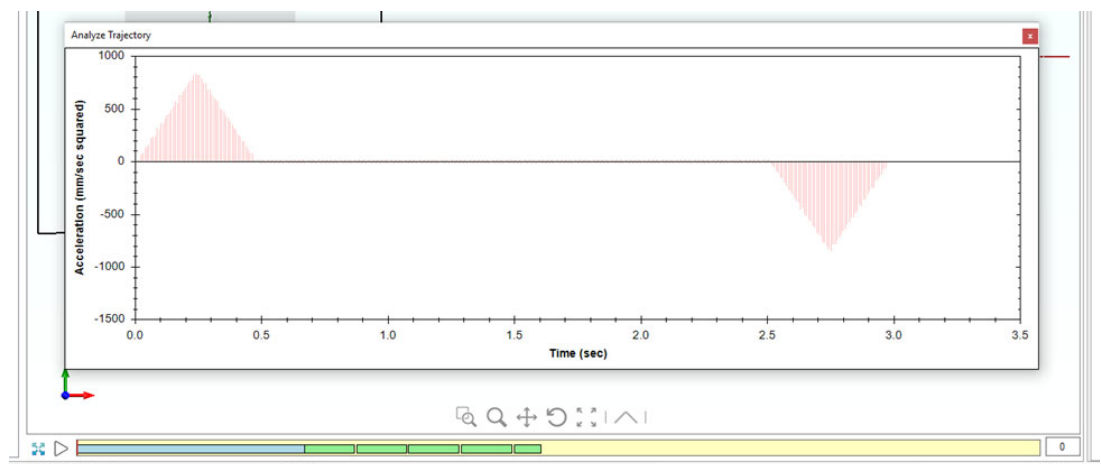

Figure 309: Analyze Trajectory Graph
3. With the Analyze Trajectory graph open, users can examine times where high acceleration zones occur and compare that to the Process Object timings on the Basic Timeline. See Figure 309 (below).